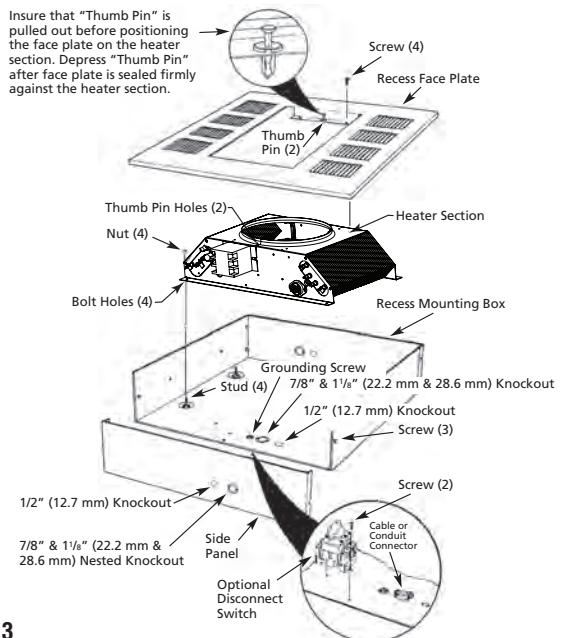

Figure 3
1. Remove the recess mounting box (Figure 3) from the carton containing the Recess Mounting Enclosure, Type REA.
2. Remove three screws and the side of the recess mounting box to allow for easier wiring (Figure 3).
3. Remove one of the knockouts and install a cable or conduit connector (Figure 3).
4. Install the optional disconnect switch (if required as shown in Figure 3).
8. Position the heater section over the studs in the recess mounting box (Figure 3).
- Push the heater section on to the studs and securely tighten four nuts (supplied) on the studs to secure the heater section to the recess mounting box (Figure 3).
- Remove the Recess Face Plate (Figure 3) from the carton containing the Recess Mounting Enclosure, Type REA.
NOTE: Insure that the "thumb pin" in each end of the discharge grille opening is pulled outward to allow the body of the thumb pins to fit into the holes in the heater section. (Figure 3.)
- Install and securely tighten four screws (supplied) to secure the recess face plate to the heater section (Figure 3).